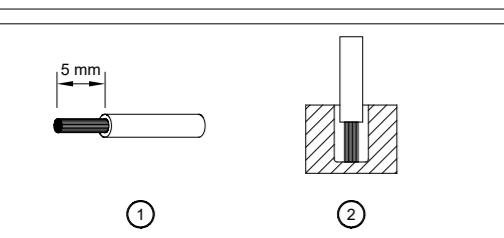

Figure 4
(1)	0.83-3,3	18-12	4	3.5
(2)	0,33-3,3	22-12	4	3.5
To secure reliable and shock proof connections, the stripping length should be 5 mm (see Fig. 4 (1)). Please ensure that the wires are fully inserted into the connecting terminals as shown in Fig. 4 (2). All wire strands must be fully inserted into the terminals with the screws securely fastened in order to ensure safety and maximum contact.